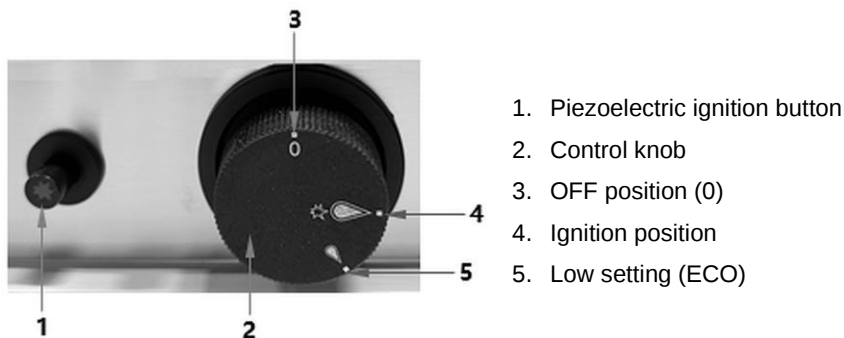

Fig. 5
1. Turn the control knob (2, Fig.5) to ignition position (4).
2. Press the control knob (2) and keep it pressed.
3. Press the piezoelectric ignition button repeatedly (1) until the main burner is ignited.